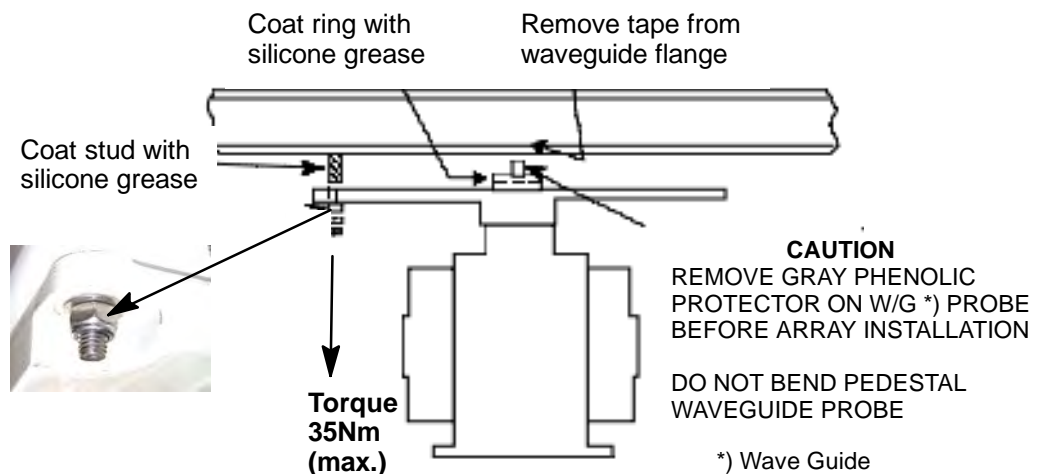

Figure: 2-10 X-Band Array Mounting
- (2) Remove tape from waveguide flange of antenna array.
- (3) Remove antenna probe feed protection cover. Use caution when lifting the array into position to avoid damaging the probe.
- (4) Grease O-Ring located around rotary joint housing with Silicone Grease.
- (5) Lift the antenna array into position above the mounting bar and carefully align the mounting holes; then lower the array onto the mounting bar. Coat array mounting studs with silicone grease, Figure: 2-10 .